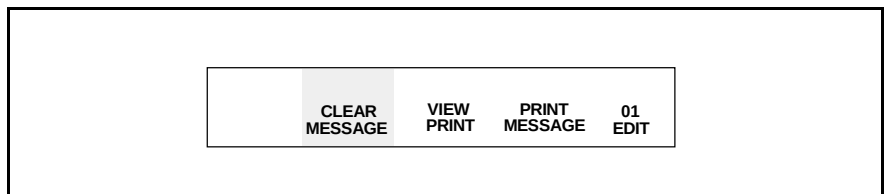

Figure 6-38. Frame <01 EDIT>
1. Begin in Frame <01 EDIT>. Refer to Figure 6-38.